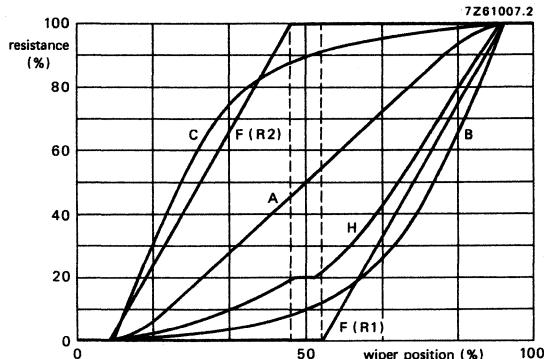

Fig. 2 Some typical resistance laws.
**Resistance law** — Function of the resistance ( $R_{ab}$ ) measured between the wiper terminal (b) and the 0% end-stop (a) at wiper positions from 0 to 100% of the mechanical angle of rotation (Fig. 2).